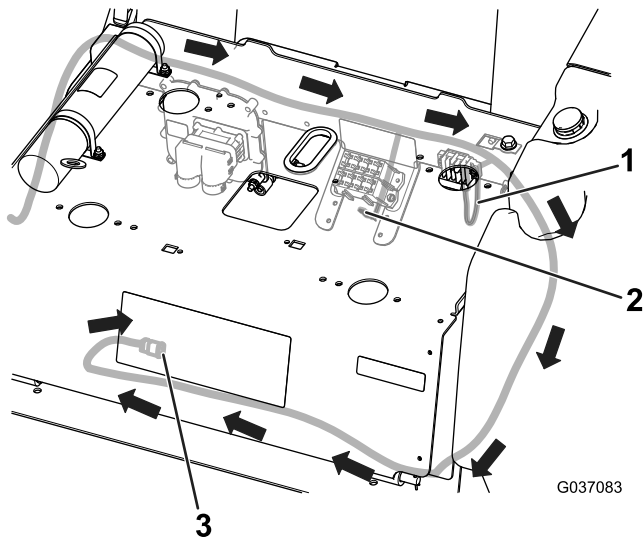

Figure 5
7. Plug the fuse block connector on the wire harness into the fuse block and plug the ground block connector into the ground block (Figure 5).